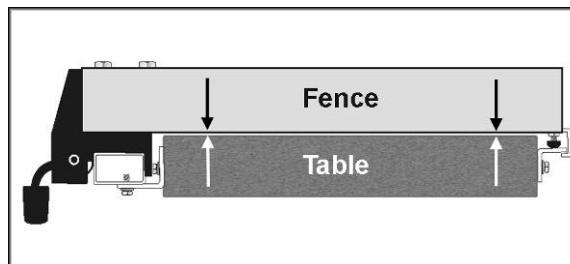

Figure 4
14. Check the clearance between the table and the fence. The fence should not rub against the table surface but be slightly above it. This gap should be the same at the front of the table as it is at the rear. See Figure 4.